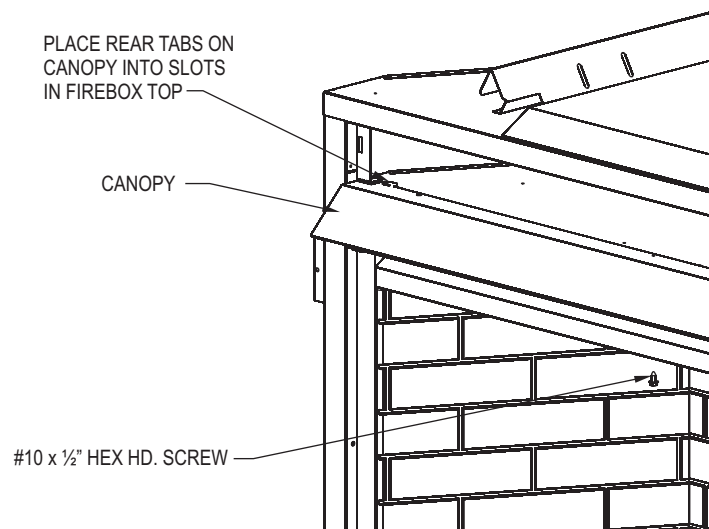

Figure 2
Step 2) Install the Canopy by first removing the upper louver assembly (if one). Flush face fireplace models will have a 3/8” high opening just above the firebox that will accept the canopy’s rear tabbed flange. With the canopy tilted slightly upward, insert the canopy so that the rear locator tabs lock into the slots located in the firebox top. Rotate the canopy downward and install (1) # 10 x ½” Hex Hd screw at the center of the canopy. This screw will be installed from inside the firebox. The location is midway between the two firescreen rods at the center of the fireplace. Secure the canopy with this screw, but do not overtighten. See figure 2.